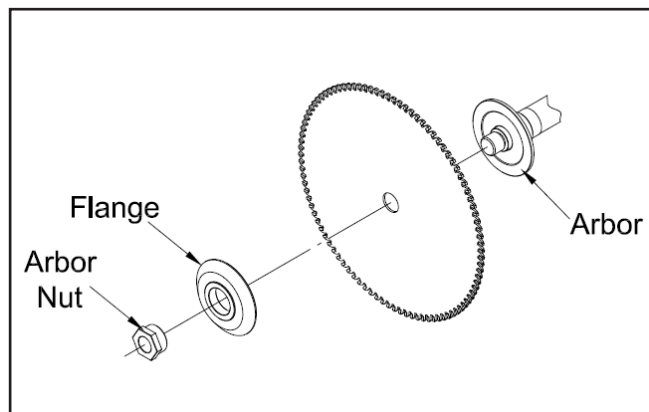

Figure 91. Order of assembly for main blade.
10. Thread arbor nut on counterclockwise and fully tighten it to secure the assembly (see **Figure 91** for order of assembly).